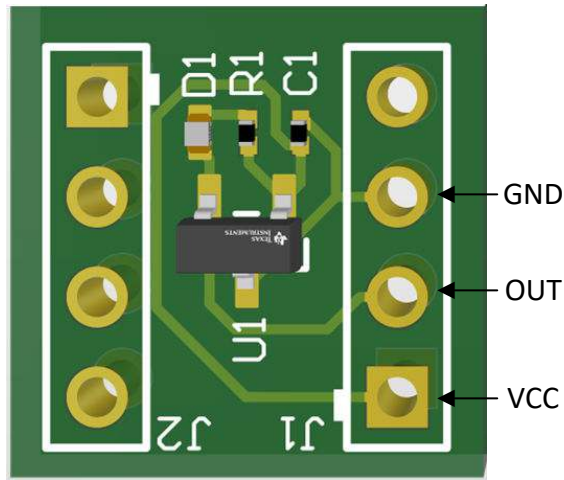

Figure 3-7. Wiring Guide
1. Locate the HALL-HINGE-EVM PCBs. TMAG5231 may be evaluated on this PCB with or without the use of the 3D structures. The device may be powered by connecting a voltage source or battery as indicated in Figure 3-7.